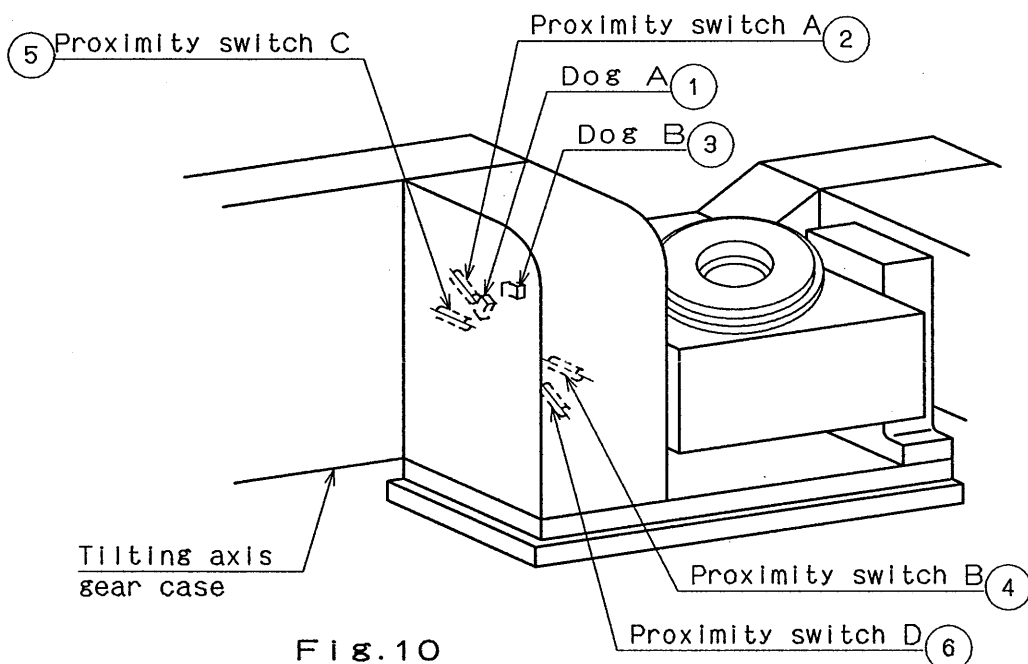

Fig. 10
## 6-3-2 Tilting axis ZRN device (Fig.10, Fig.11)
### 6-4-1 TTS180, TTS250 (Fig.10)
- 1) The dog A ① of Fig.10 (used together with ZRN decelerating dog) located on the stroke limit on the horizontal table face position is detected with the proximity switch C ⑤.
- 2) The dog B ③ located on the stroke limit on the vertical table face position is detected with the proximity switch D ⑥.